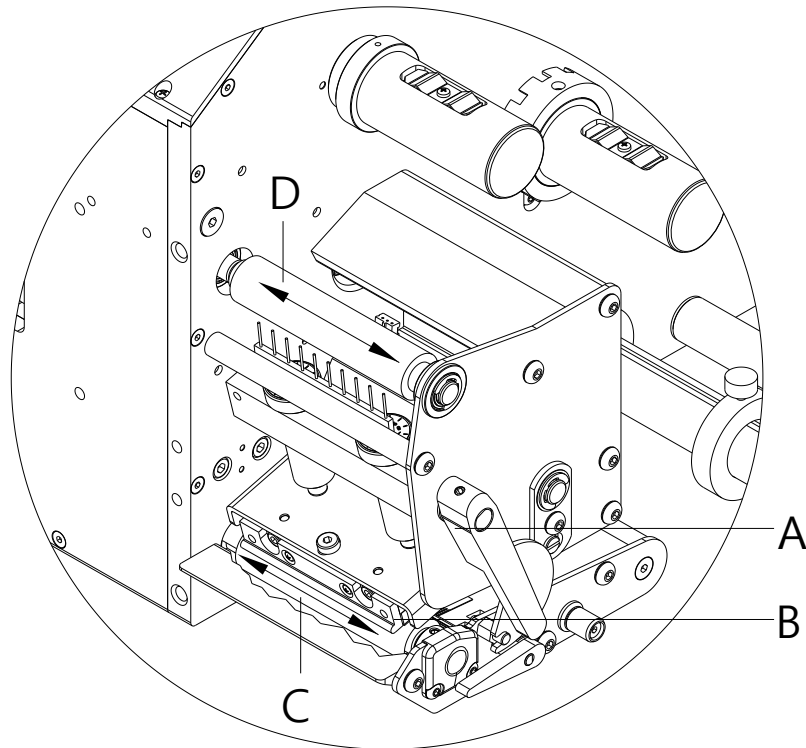

Figure 3
1. Turn the lever (A, Figure 3) anticlockwise to lift up the printhead.
6. To move the printhead down, turn the lever (A, Figure 3) in clockwise direction until it locks.
1. Turn the lever (A, Figure 3) counter clockwise to lift up the printhead.
3. Blow out the photocell (A) with pressure gas spray. Observe strictly the instructions on the spray can!
4. Clean the label photocell (A) additionally with a cleaning card (B) before soaked in pure alcohol. Move the cleaning card from one side to the other (see illustration).